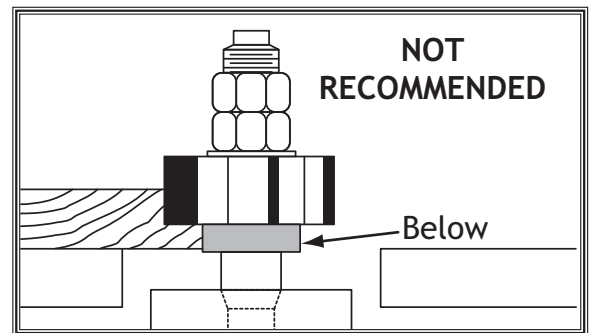

Figure 25. Rub collar mounted below cutter.
- **BELOW THE CUTTER** as shown in **Figure 25**. This setup allows the cut to be viewed by the operator; however, it is also the most dangerous because the operator is exposed to the moving cutter.